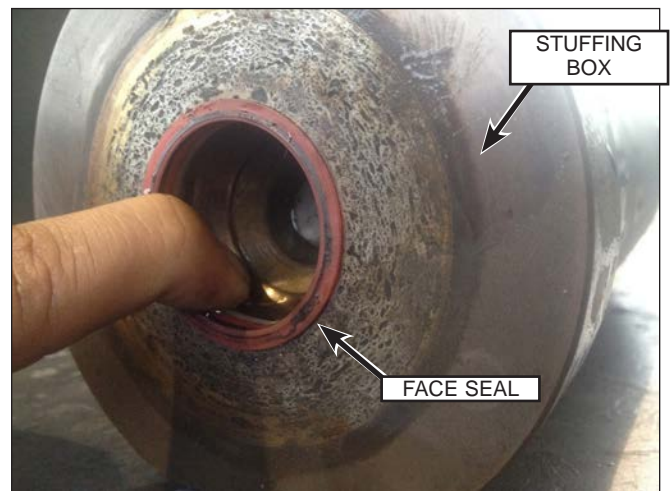

Figure 104: Face Seal Removed.
1. Press slightly behind the face seal using your finger and gently pull the seal out (Figure 104).